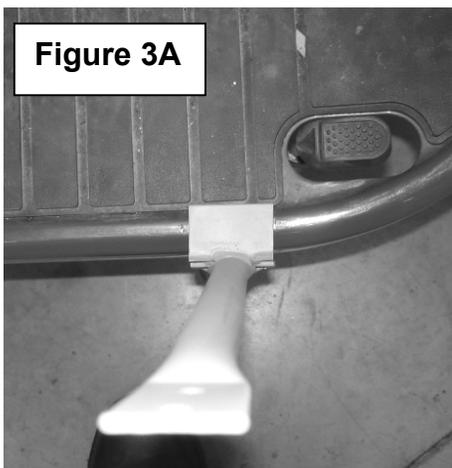

Figure 3A
B. Place the clamp over the edge of the step plate as shown in Figure 3A Tighten the bolt just enough to hold it in place. Repeat this step on the left side.